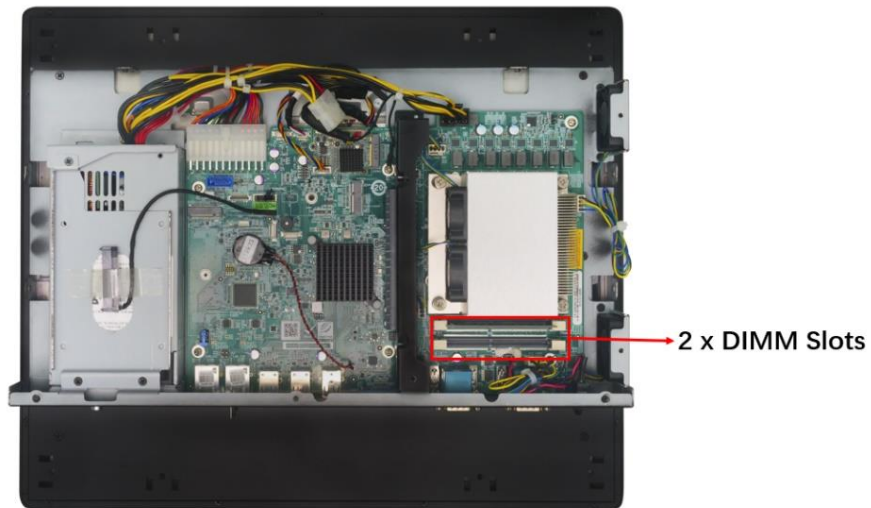

Figure 3-6: DIMM Slot Locations
Step 2: Locate the DIMM slots as shown in **Figure 3-6**.